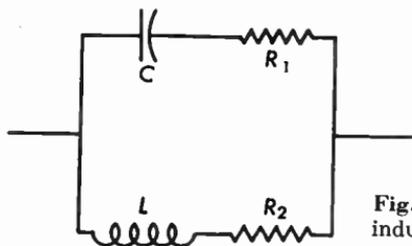

Fig. 3.20 Capacitive-resistive and inductive-resistive branches in parallel.
3.20 In Figure 3.20, $C = 506$ micromicrofarads, $R_1 = 70$ ohms, $L = 87$ microhenries, $R_2 = 50$ ohms and $f = 1.5$ megacycles. Find the equivalent series circuit, the absolute value of the impedance, and the phase angle.